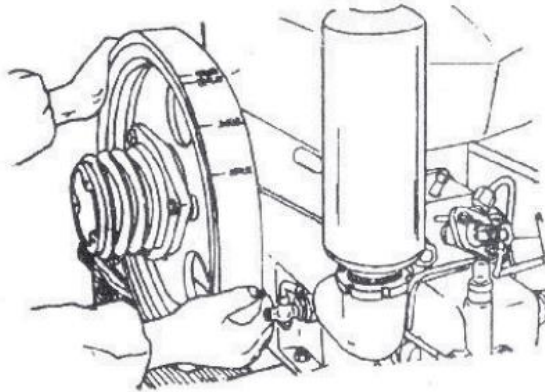

Fig. 9- Girar o volante para a posição T. D. C. exigida
- ✓ Turn the steering wheel until you can not. Then push the pressure relief lever down and continue to rotate the steering wheel until the line marked on the steering wheel matches the line marked on the radiator (Fig. 9), so that the intake and discharge valves are set in the closed condition and the piston adjusted in the neutral center position in the compression stroke to prevent any dust from entering the cylinder.
2. Turn the handwheel until the T mark on its periphery matches the line marked on the radiator to adjust the piston in the upper dead center in the compression stroke. (Fig.9).